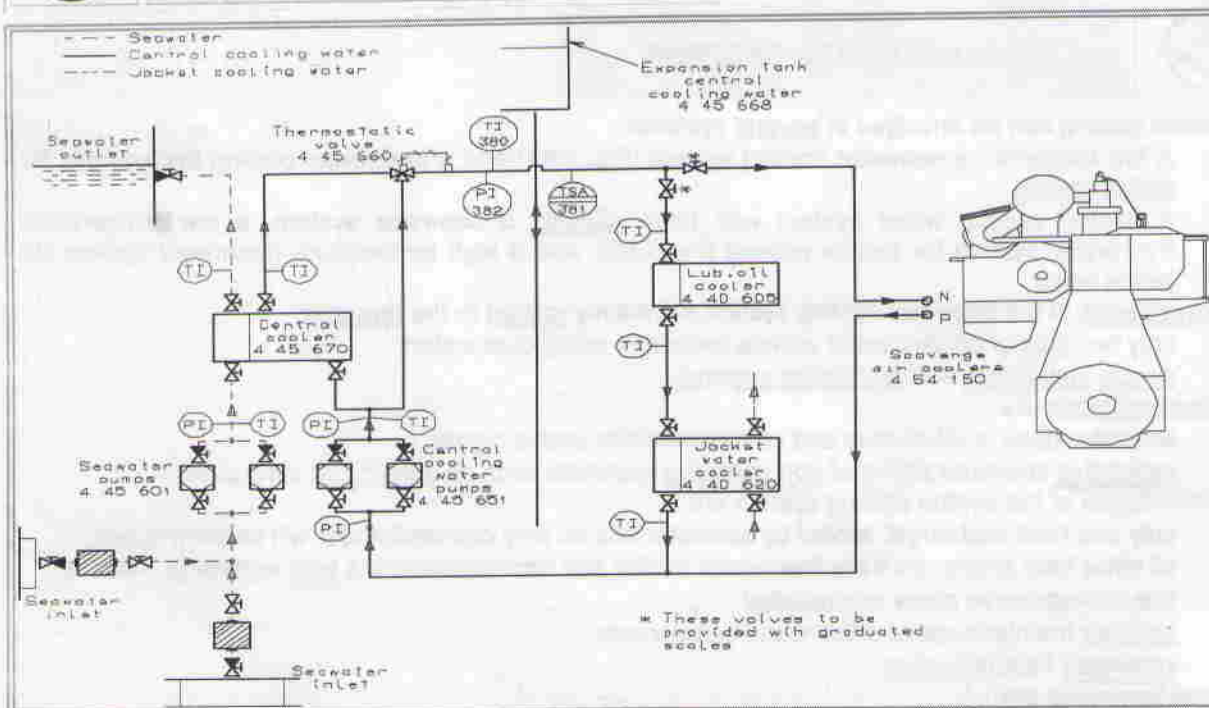

Fig. 4.02: Central Cooling System
- A central cooling water system with three circuits: a seawater system, a low temperature freshwater system for central cooling (Fig 4.02), and a high temperature freshwater system for jacket water.